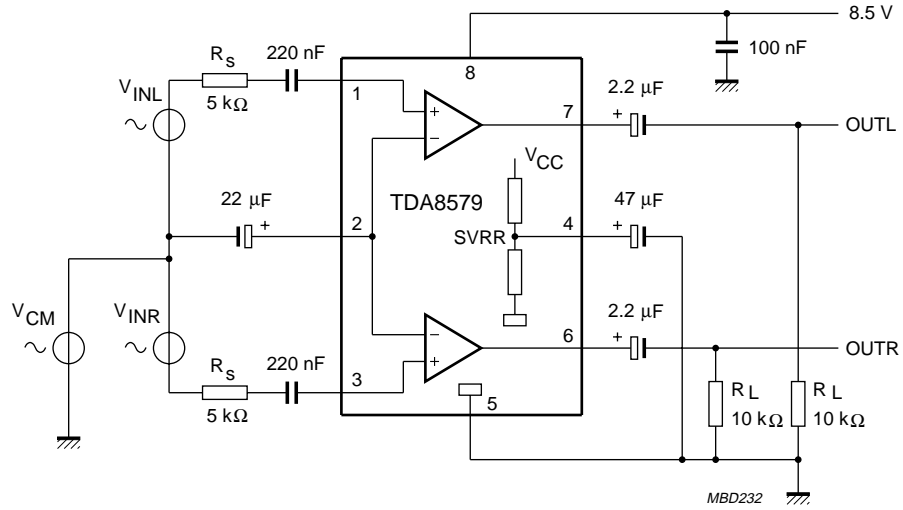

Fig.3 Test and application circuit.
$V_{CC} = 8.5 \text{ V}$; $T_{amb} = 25 \text{ }^\circ\text{C}$; $f = 1 \text{ kHz}$; measured in test circuit of Fig.3; unless otherwise specified.
4. The common-mode rejection ratio is measured at the output with a voltage source 1 V (RMS) in accordance with the test circuit (see Fig.3) while V_{INL} and V_{INR} are short-circuited. Frequencies between 100 Hz and 100 kHz.